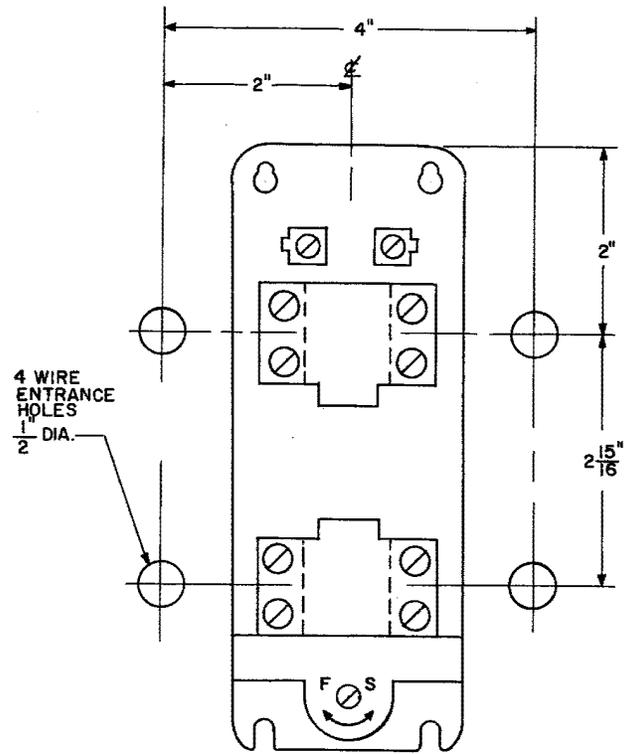

Fig. 24 - Drilling Information for Rear of Panel Wiring - CR2820-B111AA Time-Delay Relay
(1) In most cases, front wiring or rear wiring through wire entrance holes will be the same as that used to wire the old relay. If any doubt arises as to which method should be employed, consult the supervisor.
(2) If rear of panel wiring is used, drill 1/2-inch holes as shown in Fig. 24, utilizing any existing wire entrance holes associated with the old relay.